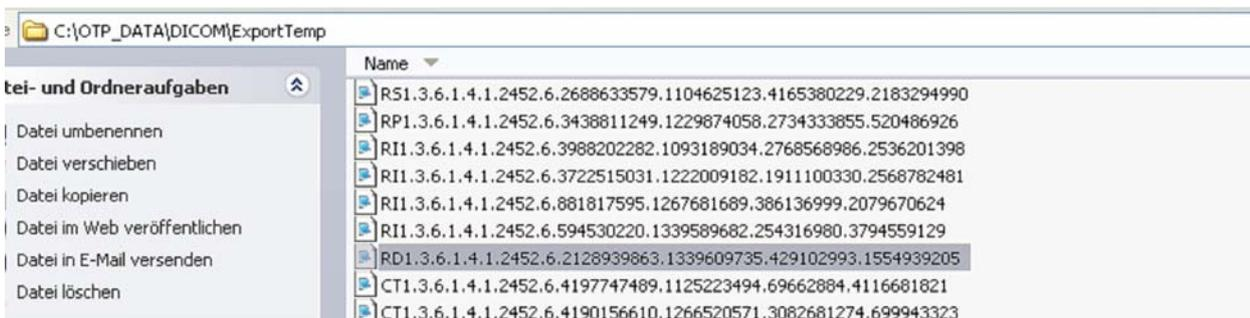

Fig. 2: Data export
Step 7: The effective point of measurement lies 7.5 mm beyond the surface of the 2D-ARRAY. The plane you choose in VeriSoft must correspond to this position. However a problem may occur when the dose grid in MasterPlan is larger than the physical phantom dimension. (Fig 2). To verify the depth inside the treatment planning system, the user may visualize the dose grid in the Beam Modelling Module. The evaluation depth can be obtained by adding the length of the dose grid "in air" to the depth in the phantom.